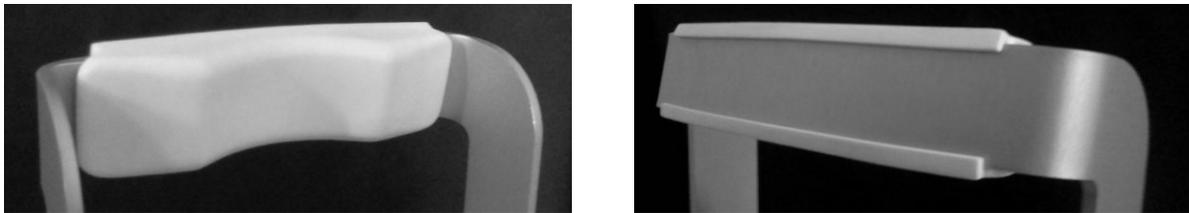

Fig. 7 - Headrest silicone cushion mounted on metal support
- insert the Headrest silicone cushion on the metal support (see Fig. 7);